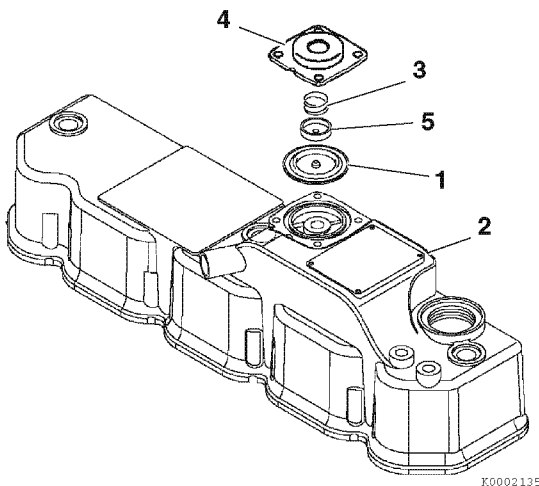

Figure 5-16
The non-turbo TNV engines use a crankcase breather structure that includes a spring (3, **Figure 5-16**) and a diaphragm (1, **Figure 5-16**) in the cylinder head cover (2, **Figure 5-16**).
To inspect the diaphragm and spring (3, **Figure 5-16**):
1. Remove the bolts retaining the diaphragm cover (4, **Figure 5-16**).
2. Remove the diaphragm cover, spring, diaphragm plate (5, **Figure 5-16**) and diaphragm.